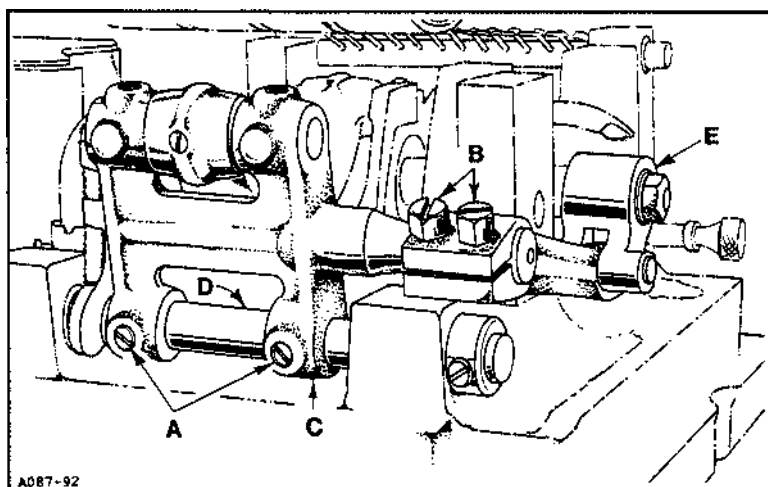

Fig. 12
To center the feed dog from left to right rotate the handwheel in operating direction until the feed dog is at its highest position. Loosen screws (A and B, Fig. 12) and move feed rocker (C) right or left on feed rocker shaft (D) as required. Retighten screws (A and B).
To move the feed dog from front to back loosen screws (B, Fig. 12) and move feed rocker arm (C) as required. Tighten screws (B). One full tooth should pass beyond the rear of the presser foot when the feed dog has travelled fully to the rear.